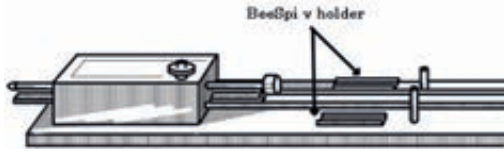

Fig.5
1. Set the BeeSpi V on the BeeSpi V holder (see Fig.5 and 6) after setting the launcher unit (see Operation).